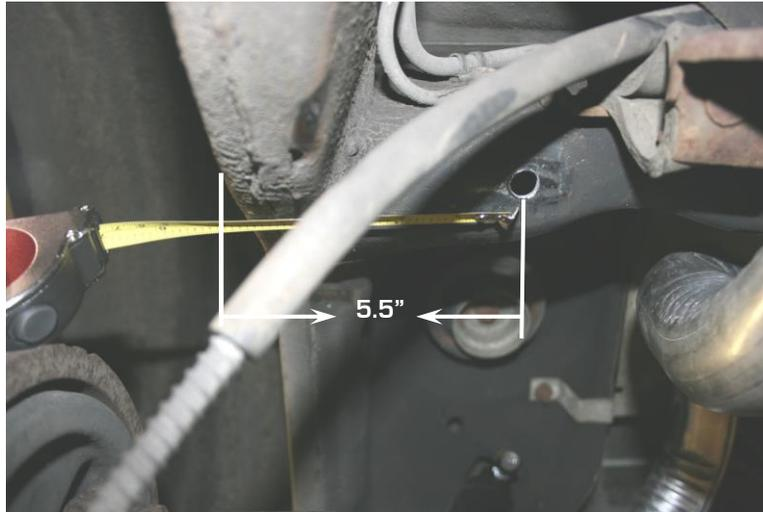

Figure 1 - Locating the Upper Link Mount Hole (Driver Side Shown)
2. It is necessary to locate and drill four holes for the anti-roll bar end links to mount to the upper link mount crossmember. Measure from the outside of the framerrail toward the center of the car $5\frac{1}{2}$ ". Mark this location on the flat surface of the crossmember. At the marked location, drill a $\frac{3}{8}$ " diameter hole. Drill another $\frac{3}{8}$ " diameter hole .800" outboard of the first one. Repeat this procedure on both driver and passenger side. Refer to Figure 1 below for an example.